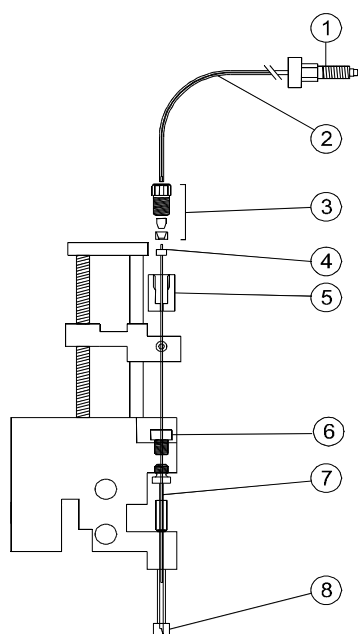

Fig. 6. Needle assembly.
The following elements can be identified in figure 6:
1. Loosen the nut from the injection valve (1, Fig. 6).
2. Loosen the needle connection nut (3, Fig. 6).
5. Remove the air-prepuncturing needle by unscrewing the needle out of the plastic block (7, Fig. 6).
7. Insert a new sample needle and tube through the needle holder (5) and tighten the nut (4, Fig. 6).